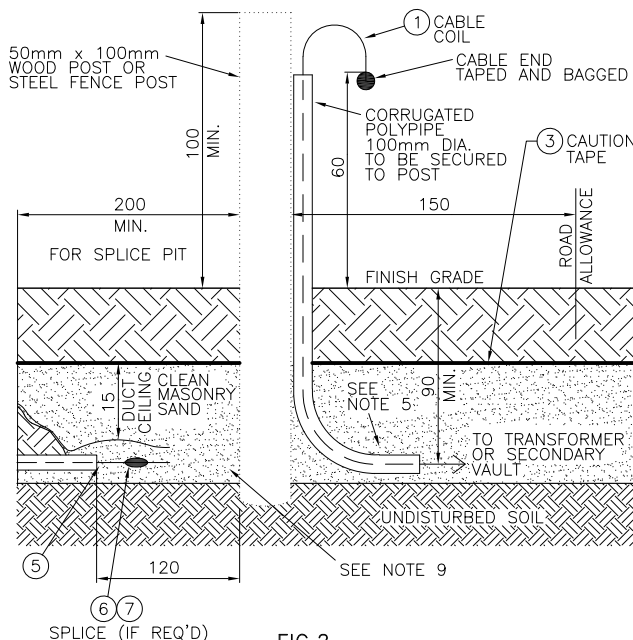

FIG. 2
- IF SPLICE AT PROPERTY LINE CANNOT BE AVOIDED, INSTALL AS PER 'FIG.2'. IT IS THE CUSTOMER'S RESPONSIBILITY TO ENSURE BOTH TRENCH ENDS ARE BACKFILLED AFTER CABLE INSTALLATION.